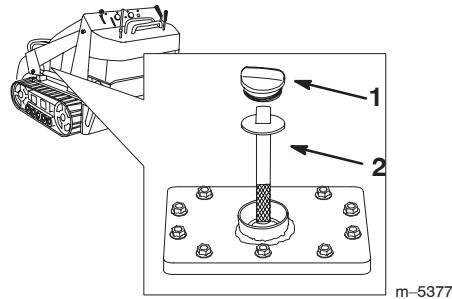

Figure 4
5. Clean the area around the filler neck of the hydraulic tank (Fig. 4).
6. Remove the cap from the filler neck and check the fluid level on the dipstick (Fig. 4).